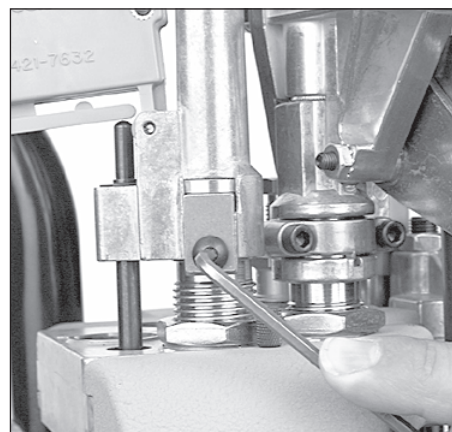

FIG 58
5. Reinstall and snug the die clamp screw FIG 58.